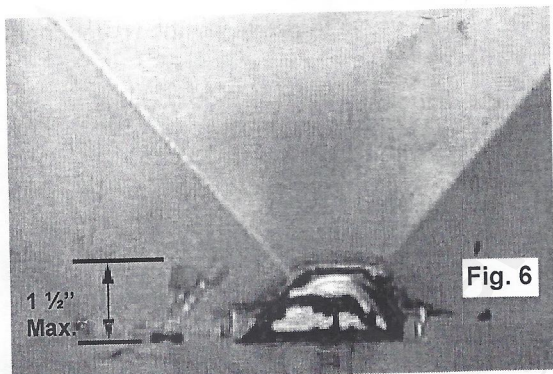

Fig. 6
6. Route Photoeye wires through 1/2" hole. Add strain relief and male connectors as shown. Make sure the male connectors have a good solid connection to the photoeye wires and that they protrude no more than 1 1/2" from the hopper (see Fig. 6).